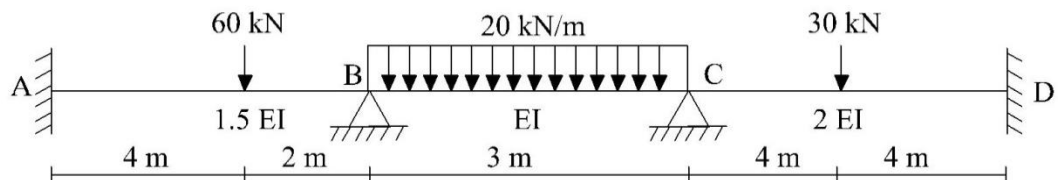

Fig 5
- 7 a) Discuss the procedure of Direct Stiffness Method in the matrix analysis (5)
b) Analyse the continuous beam shown in figure 5 using Direct Stiffness Method (15)